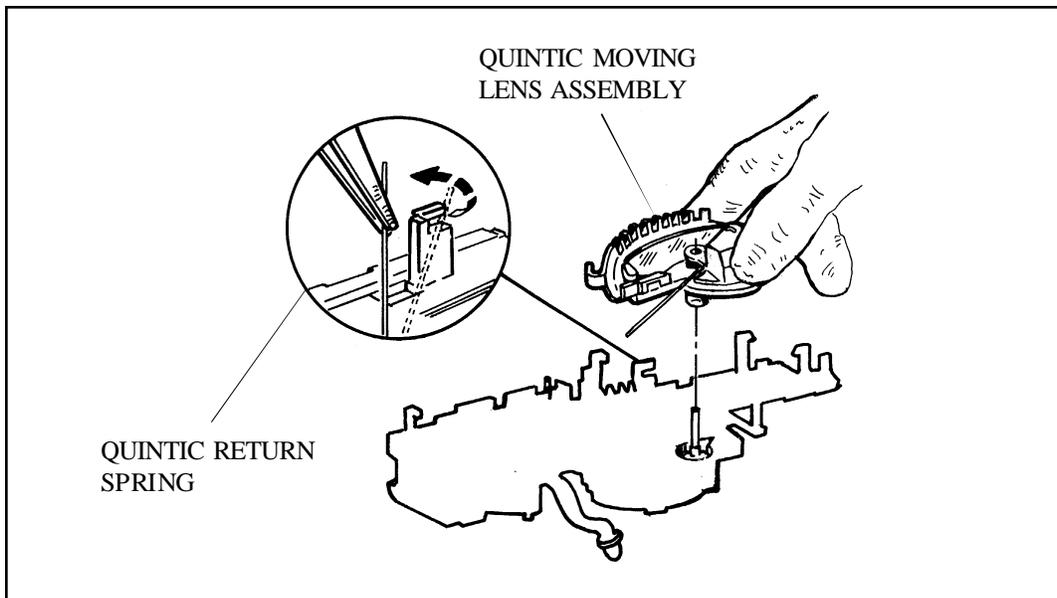

Figure 3-40. Removal and Disassembly of Quintic Moving Lens Assembly
- h. Unhook the upper leg of the Quintic Return Spring (Figure 3-40).
- i. Remove (and disassemble, if necessary) the Quintic Moving Lens Assembly (wear lintless cotton gloves or finger cots) (Figure 3-40).